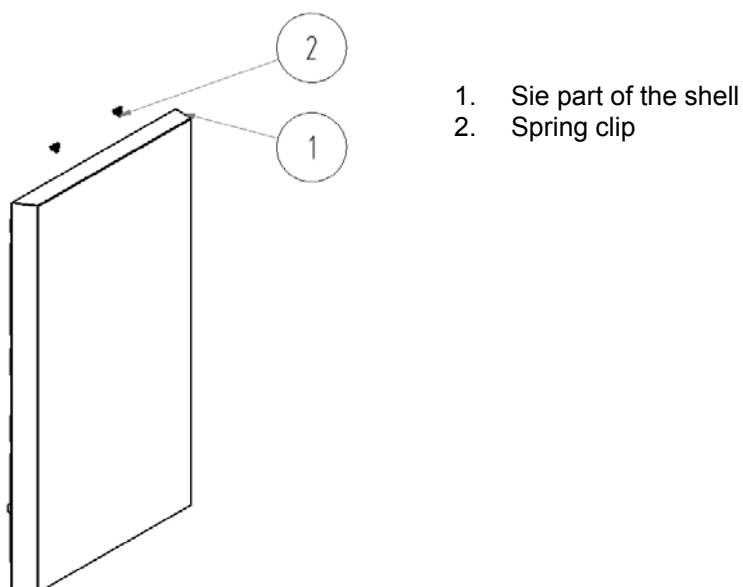

Fig.no.13 Right side part of the shell
3. Mount two spring clips (2) on the right side part of the shell (1), then insert the insulation (see Fig.no.13). Put the boiler shell on the lower anchor bolts and connect the upper part with the lowered consoles by means of two screws M5 x12 and two washers 6,4 (see Fig.no.16).